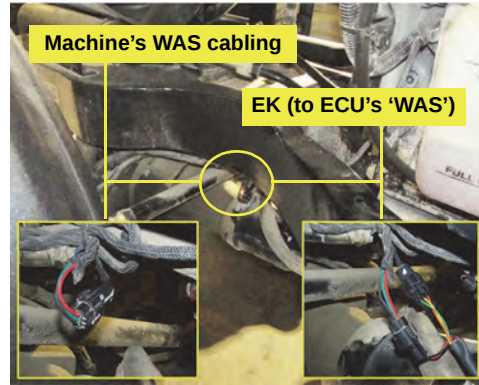

Figure 3f: WAS cable (re)connections
- f. Locate the machine's wheel angle sensor cable connectors behind the front axle, on the left side near the tie rod (Figure 3f and left inset). Split the connectors and connect WAS adapter cable **EK**'s branches to the machine's cable connectors (Figure 3f right inset). Connect the other end of **EK** to **EC**'s branch cable labeled 'WAS'.